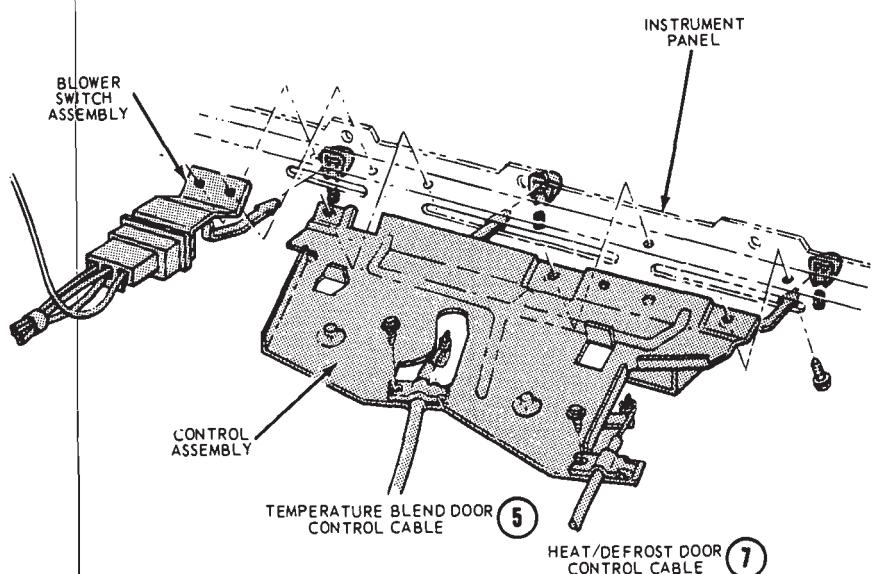

FIG. 40—Heater Controls—Montego
4. Disconnect the control cable at the control head and at the heater plenum chamber. Remove the cable (Fig. 40).
1. Position the control cable to the control head and to the lever on the plenum chamber (Fig. 40).